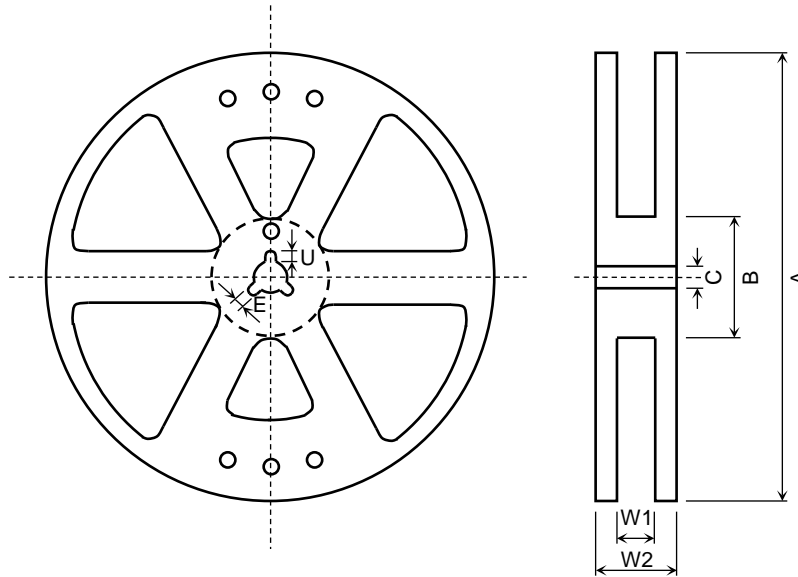

Figure 3 Reel Form
- (1) Material: Plastic (protection against electrostatics)
- (2) Dimensions: The reel dimensions are as shown in Figure 3 and Table 4.